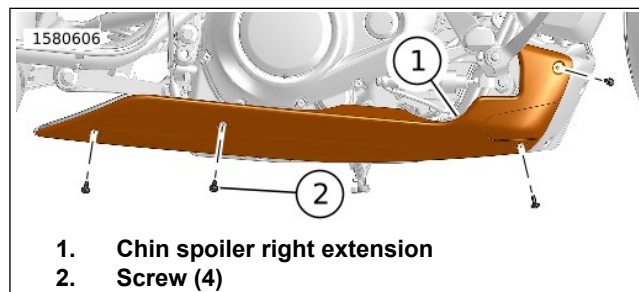

Figure 65. Chin Spoiler Right Extension
1. See Figure 65. Remove screws (2).
2. Remove chin spoiler right extension (1).
1. See Figure 65. Install chin spoiler right extension (1).
2. Install screws (2). Tighten.